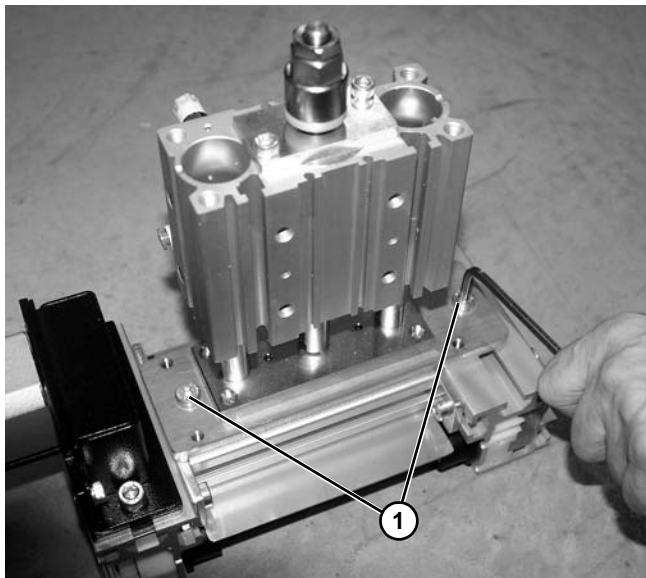

Figure 114
12. Remove two socket head screws (Figure 114, item 1) securing cylinder to conveyor frame.